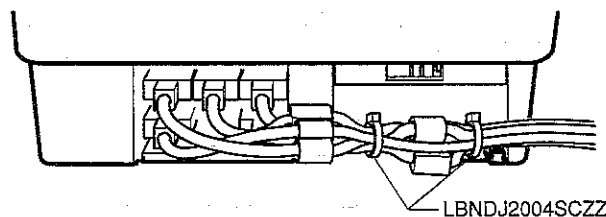

Fig. 8
- 2) The picture below shows how to pull out the cables from the right side. (Fig. 8)